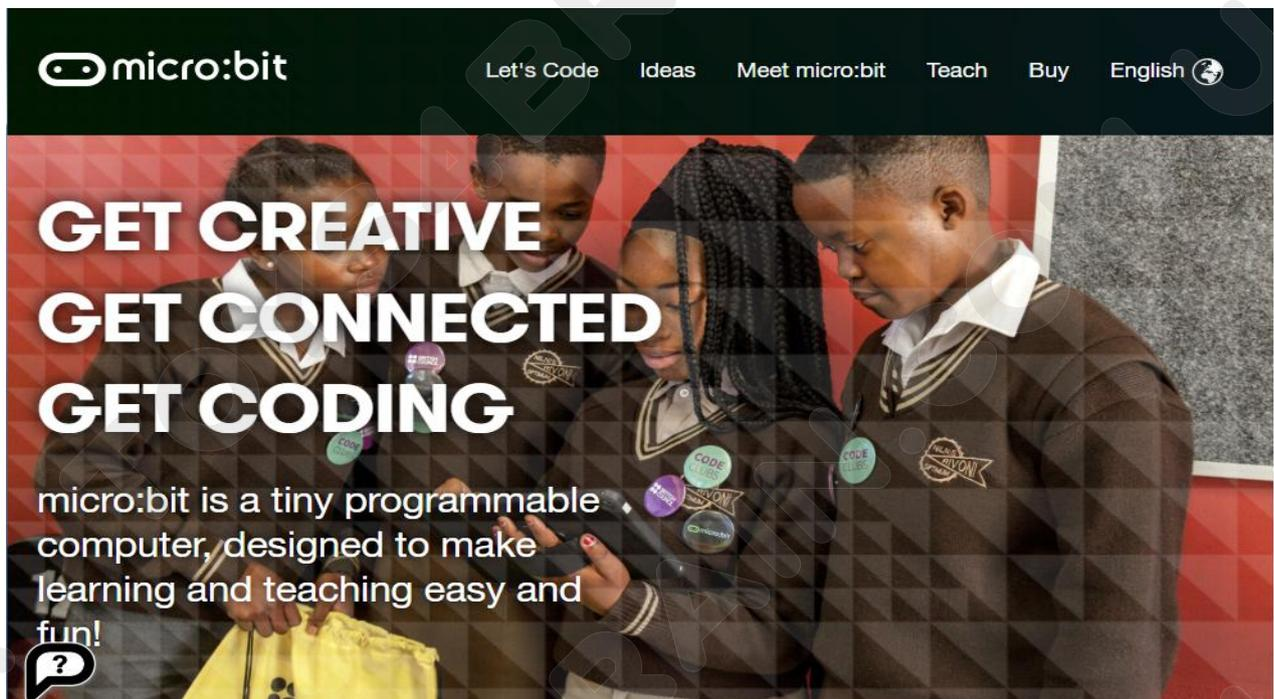

Figure 1-1
(2) Successfully access to the web address, as shown in Figure 1-1, we can click English on the upper right to switch the language.